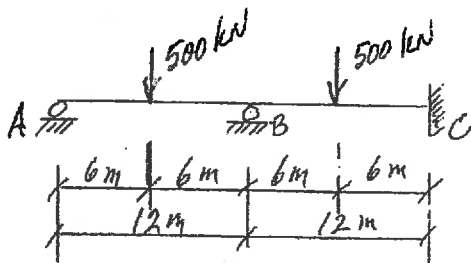

FIGURE 1
1. The continuous welded steel-plate girder, Figure 1 is simply supported at A and rigidly supported by a very stiff column at C. Choose a suitable cross-section to satisfy: